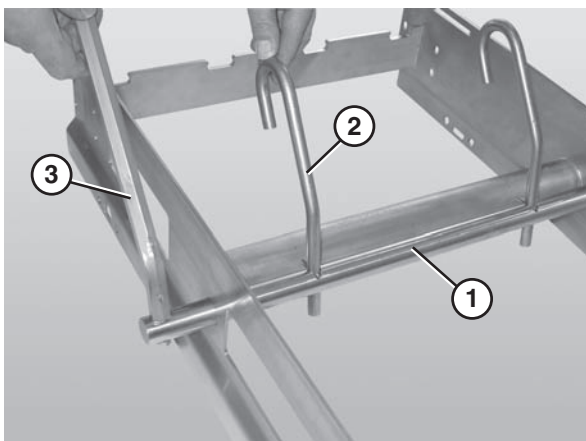

Figure 24
1. Slide the belt lift pivot bar (Figure 24, item 1) through the designated holes in the frame.
2. Attach the lifter bars (Figure 24, item 2) to the belt lift pivot bar (Figure 24, item 1). Make sure the hooked ends of the lifter bars are facing down when resting against the frame.
3. Attach the lifter handle (Figure 24, item 3) to the belt lift pivot rod.